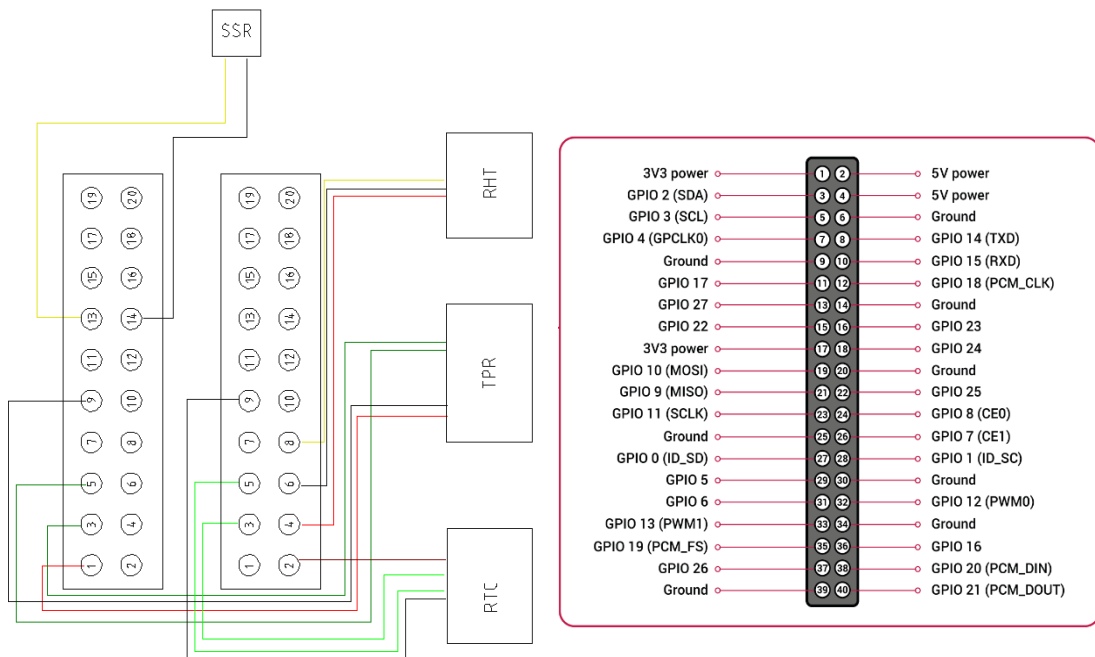

Figure 15. Raspberry Pi pin headers + pinout with relevant connections to sensors and solid-state relay.
Use two 20 way IDC TH (14) connector plugs and sensor cables (12) to connect the TPR (Tilt Pitch Roll/ IMU/ Accelerometer) sensor, RHT(Relative Humidity and Temperature) sensor, SSR (Solid state Relay and RTC (Real Time Clock) in the configuration shown in Figure 15.
Both components use the I2C protocol and require connection to the SDA and SCL pins on the Raspberry Pi. Each device has a unique address: RTC (0x68) and Accelerometer (0x53). Connect the data pins (SDA – SDA, SCL – SCL) in parallel on an external board/circuit and to the Raspberry Pi Pin 3 (SDA) and Pin 5 (SCL). The pinout for all components as shown in Figure 15 is: